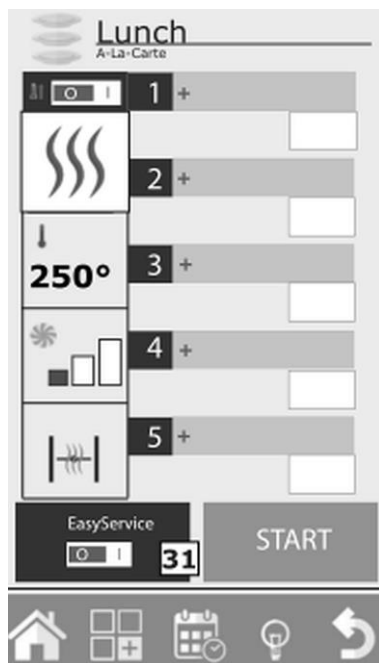

Fig. 37
1. To activate EasyService, set the EasyService switch (31, Fig. 37) to 'I' position.